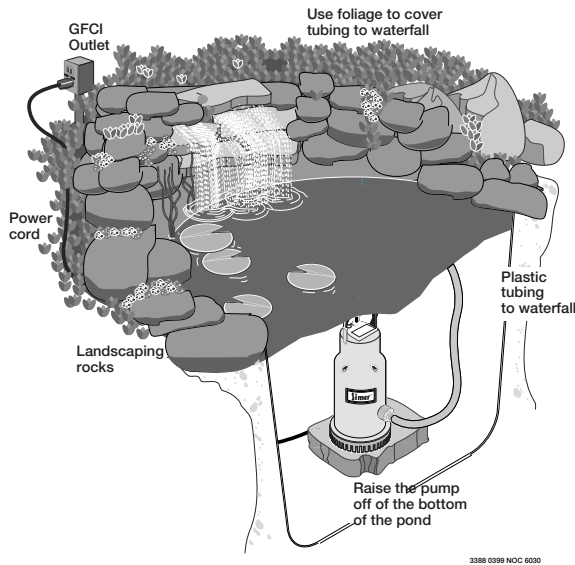

Figure 1: Typical garden pond and waterfall installation.
1. Install the pump on a hard level surface. Make sure that the pump cannot pick up rocks, mud and debris, etc. If necessary, put a block under the pump to raise it slightly. See Figure 1.